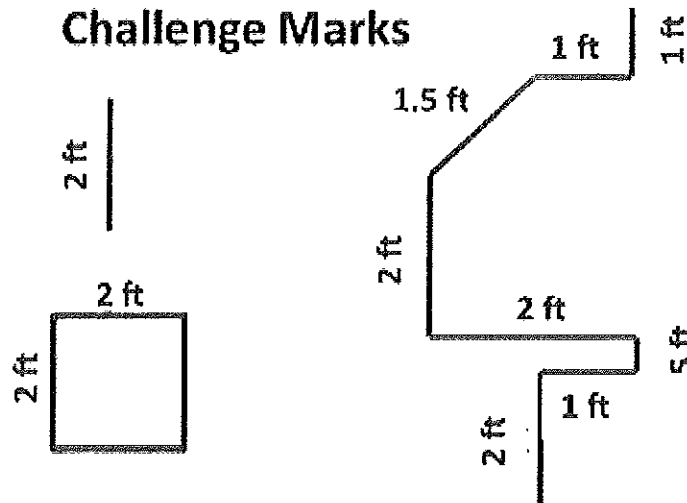

Figure 1. Use masking tape to create challenge marks on the floor.
- masking tape for floor markings (one set per five groups): 2 ft (61 cm) straight line, 2 ft x 2 ft (61cm x 61 cm) square, and an irregular line (made with straight lines and 90° angles); see Figure 1 for a visual
- Use masking tape to create challenge marks on the classroom floor, as shown in Figure 1.
- Follow the irregular line on the floor that is composed of straight lines as well as 45° and 90° angles (see Figure 1 example).